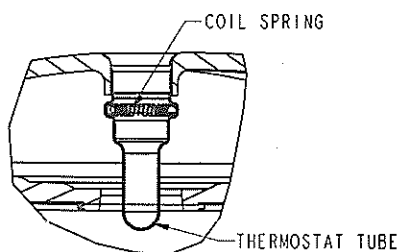

Figure 5. Coil spring location
b. Verify the *coil spring* is seated in the thermostat tube groove area (see figure 5) on the top of the compressor. (The spring is required for proper installation and is included in the kit if not already installed on the compressor).